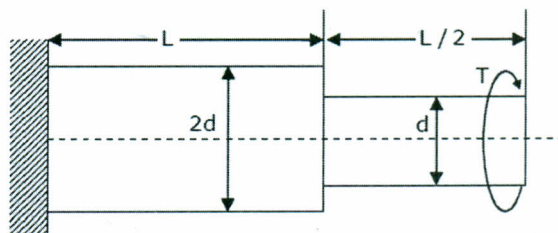

Figure 3
Q.5A A torque T is applied at the free end of a stepped rod of circular cross-sections as shown in the figure 3. The shear modulus of the material of the rod is G . Find out the expression for d to produce an angular twist θ at the free end. 5